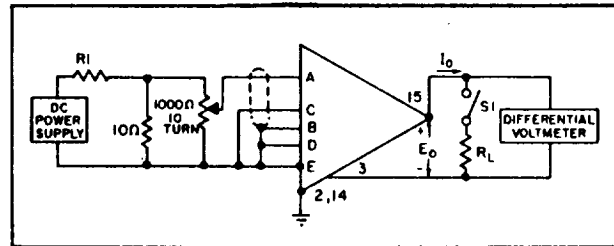

Figure 6-8. Output Impedance Test Circuit
- 1) Connect the amplifier as shown in Figure 6-8. Select R1 to provide the amplifier output, specified below. No attenuator is required when testing the amplifiers with gain multipliers at low gain settings. RL is a 20 ohm resistor.